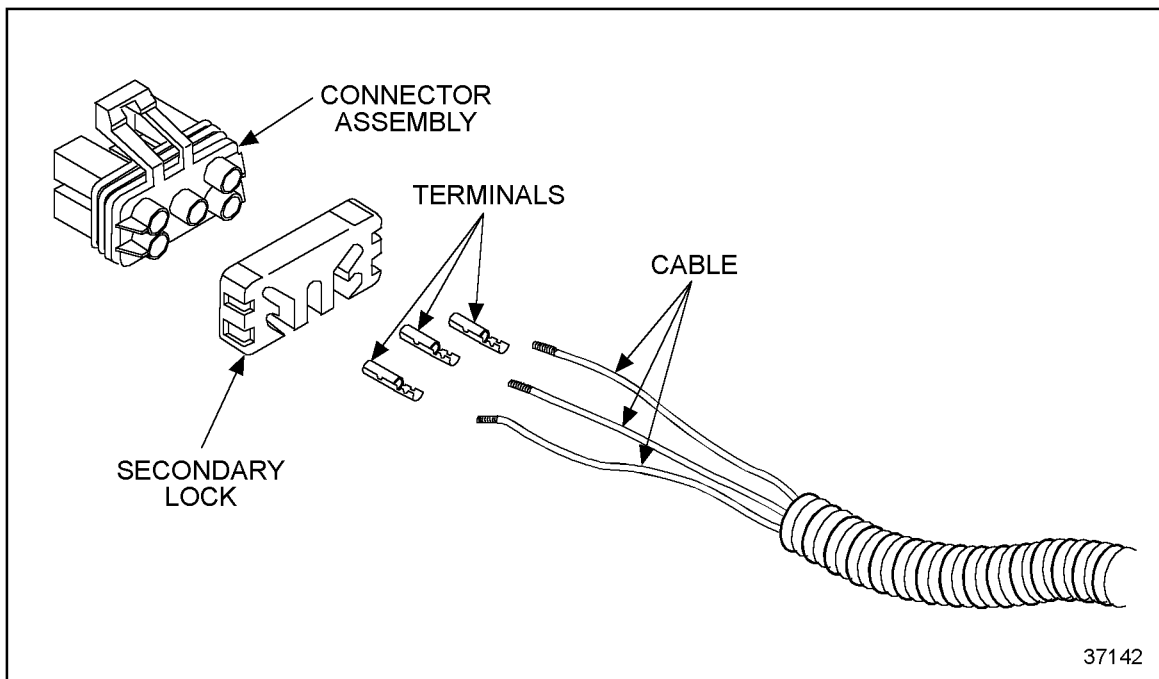

Figure 8-13 Typical Push-to-Seat Terminal Installation
9. Insert terminals into the connector and push to seat, see Figure 8-13. Insert the secondary lock(s) to position and secure the assembly.